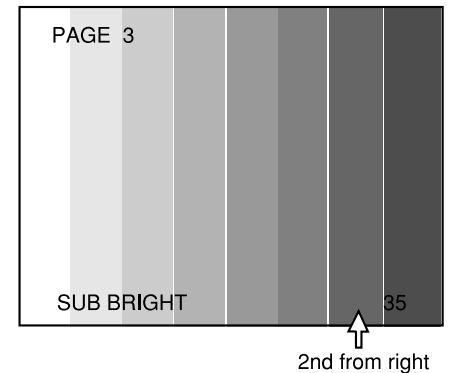

Fig. 3-1
- 1. Using the volume keys on the jig remote controller, adjust the scale of the second last from right to be slightly brightened. (Fig. 3-1)